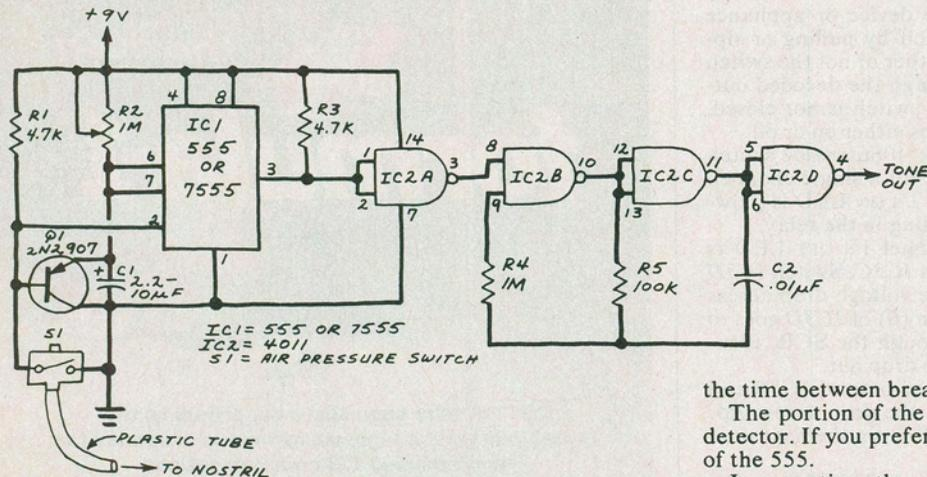

Fig. 6. This circuit monitors respiration and emits a warning tone when time between breaths exceeds a predetermined interval.
**Respiration Failure Alarm.** When used under proper medical supervision, the circuit in Fig. 6 can save a life. It continuously monitors respiration and emits a warning tone when